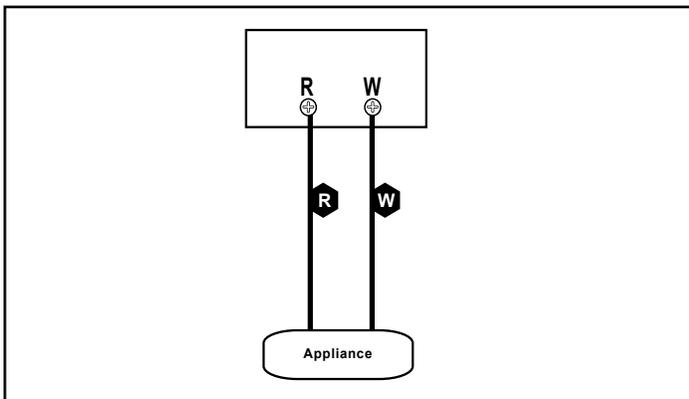

Figure 23.1
1. Connect your thermostat wire to the W and R terminals (Figure 23.1).